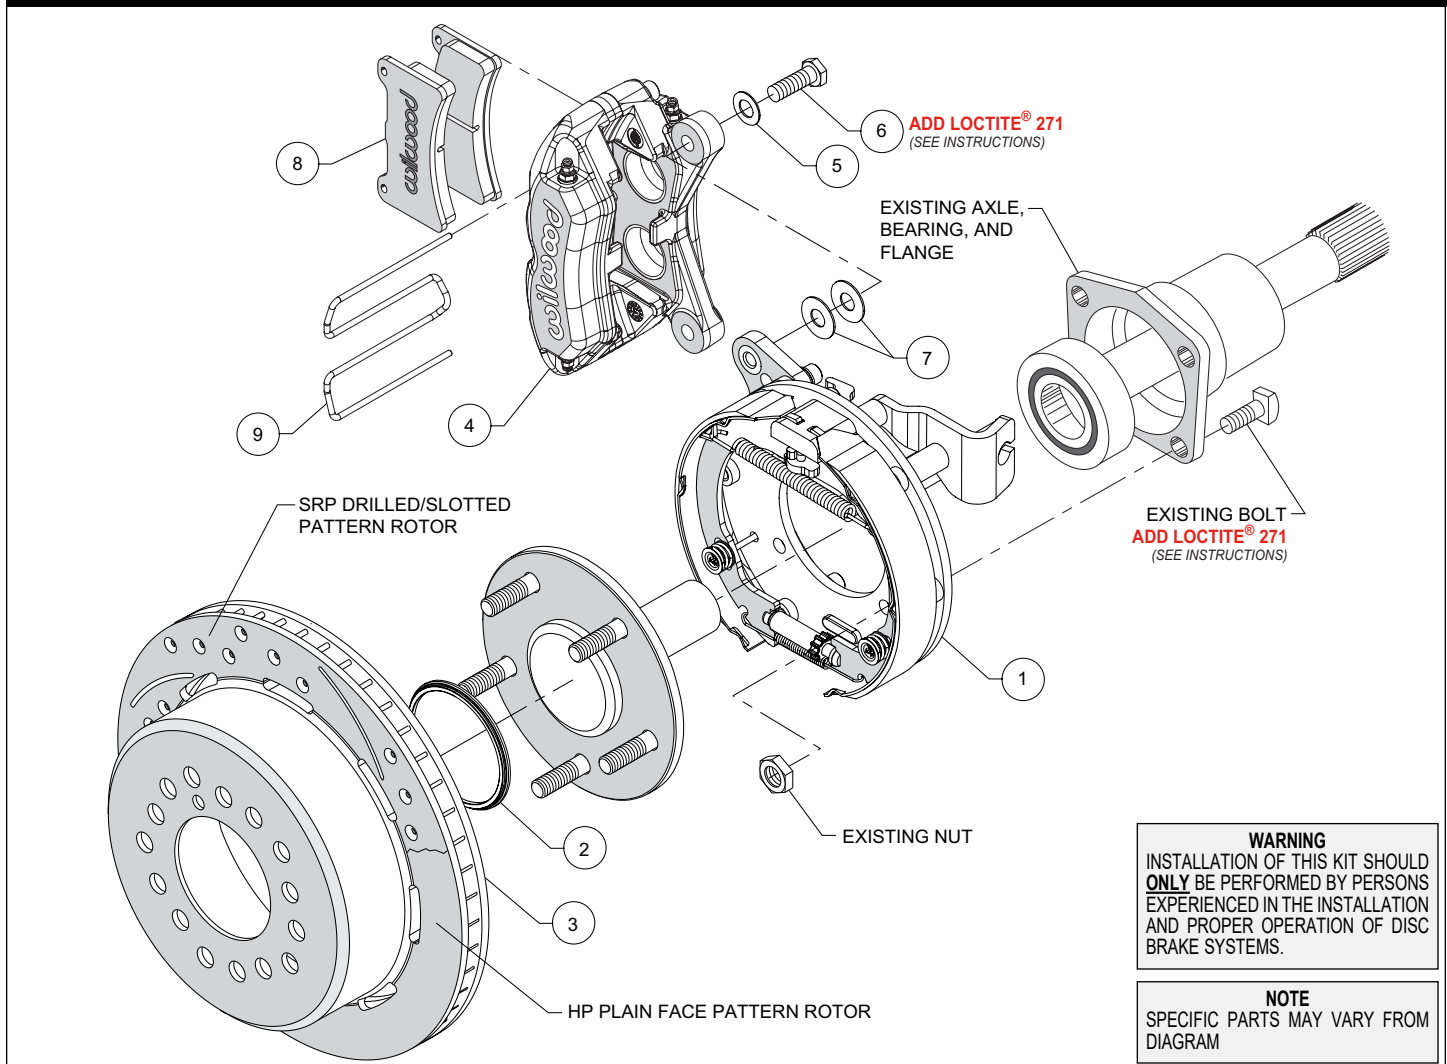

Figure 1. Typical Installation Configuration
NOTE: Numbers in parenthesis refer to the parts list and Figure 1 on the preceding pages.
•Orient the bracket assembly (1), as shown in Figure 1, and mount to the axle housing flange using the Original Equipment Manufacturer (OEM) bolts and nuts, Figure 1. Ensure that the bracket assembly backing plate fits flush against the axle housing flange. Apply red *Loctite*® 271 to the OEM bolt threads and torque to OEM specifications.
•Slide the rotor registration adapter (2) onto the axle register on the axle flange with the smaller O.D. facing toward the rotor/hat (3), Photo 1. Align the correct hole pattern in the rotor/hat with the stud pattern on the axle flange and slide into place, Figure 1 and Photo 2. **NOTE:** The rotor/hat must fit flush against the axle flange or excessive rotor run out may result. Install three lug nuts (finger tight) to keep the rotor/hat assembly in place while continuing with the installation. **NOTE:** Some OEM and after market axles come with stud sizes larger than 0.50" diameter. Verify stud size and have a qualified machine shop drill the bolt circle of the hat/rotor to the correct stud size, if necessary.
•**NOTE:** Please reference the caution statement at the beginning of the assembly instructions. Mount the caliper (4) onto the caliper mounting bracket (1) using bolts (6) and washers (5), as shown in Figure 1. Initially place two .035" thick shims (7) on each bolt between the caliper and the bracket, Photo 3. Temporarily tighten the mounting bolts and view the rotor (3) through the top opening of the caliper. The rotor should be centered in the caliper, Photo 4. If not, adjust by adding or subtracting shims between the bracket and the caliper.